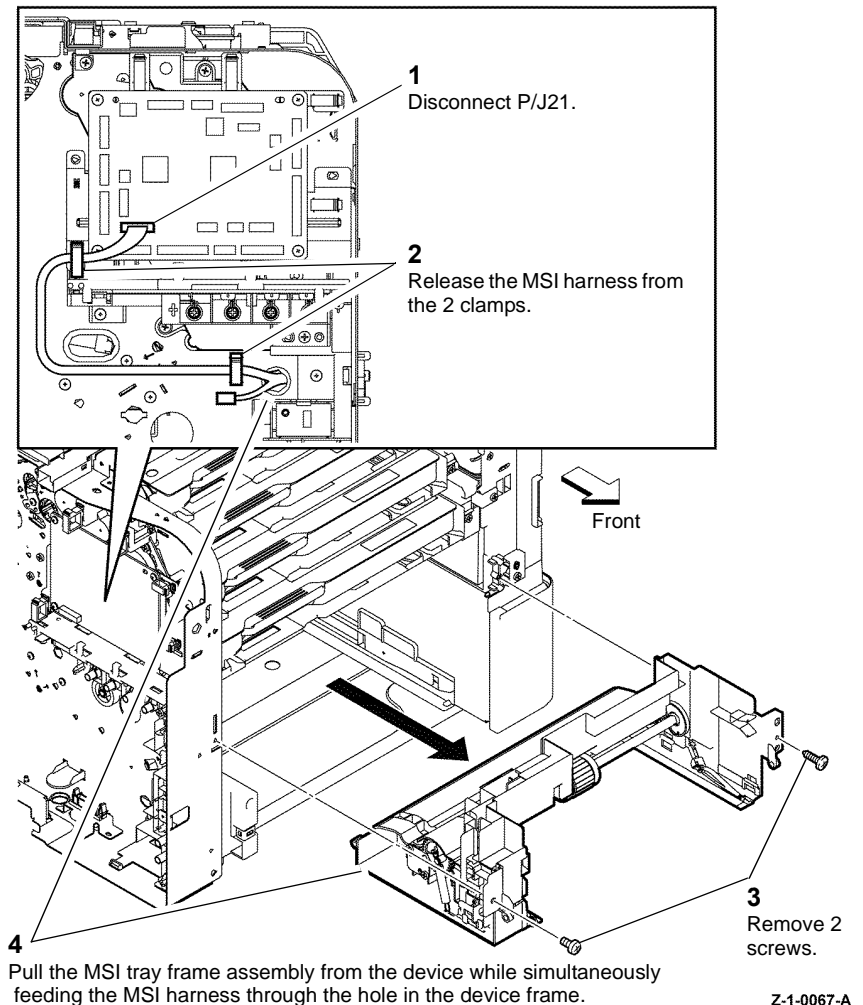

Figure 1 MSI tray frame assembly
3. Remove the MSI tray frame assembly Figure 1.